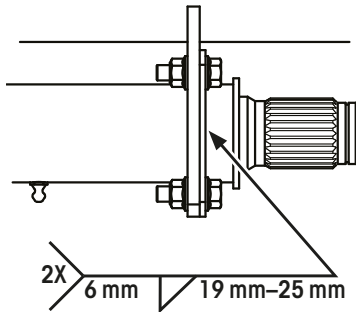

Figure 83: TRLAXLE Weld Mount Bracket Weld Specifications
8. Referring to Figure 83, weld the cam tube mounting bracket to the cam tube by placing two fillet type weld beads at accessible locations around the cam tube.